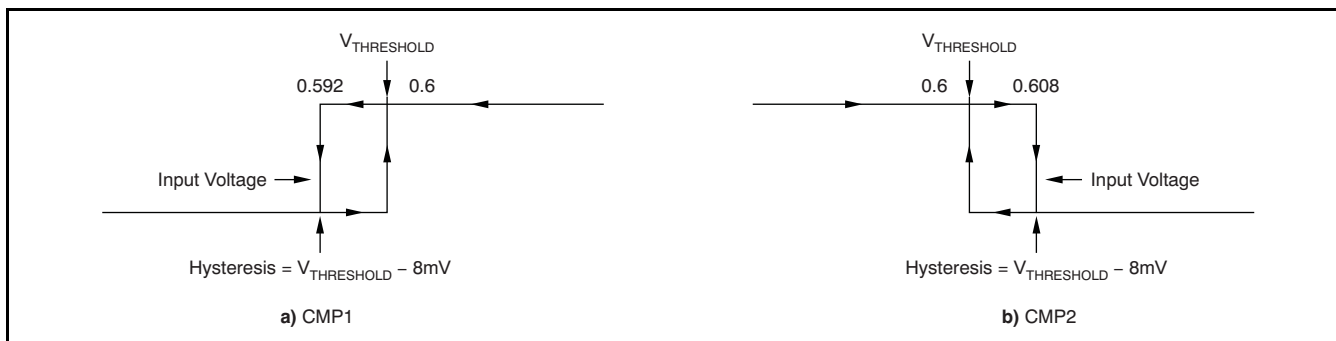

Figure 1. Comparator Hysteresis
(1) Hysteresis refers to the threshold (the threshold specification applies to a rising edge of a noninverting input) of a falling edge on the noninverting input of the comparator. Refer to Figure 1.
(2) Specified by design.
(3) See the Comparator Maximum Input Voltage Range section in the Applications Information.
(4) The comparator response time specified is the interval between the input step function and the instant when the output crosses 1.4 V.
(5) RESET input has an internal 2M Ω (typical) pull-down. Leaving RESET open results in a LOW state, with transparent comparator operation.
(6) The Comparator 2 delay applies to both rising and falling edges of the comparator output.